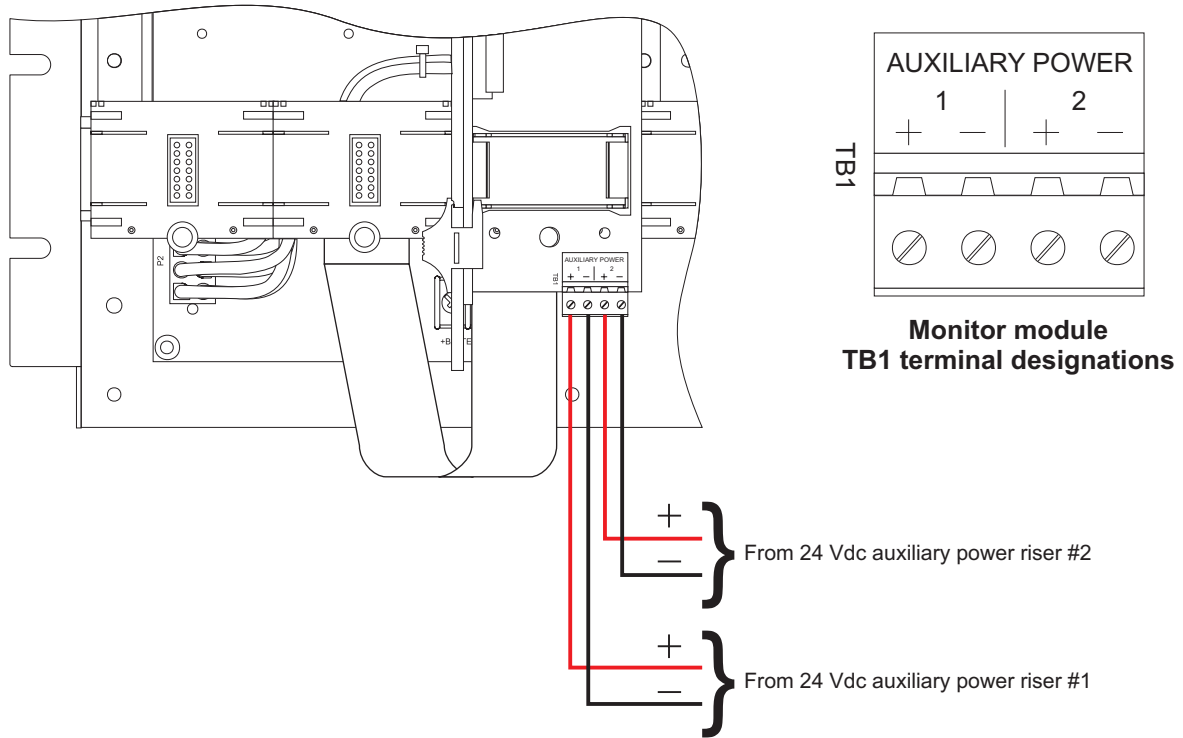

Figure-9: 24 Vdc auxiliary power riser wire connections
4. Connect the 24 Vdc auxiliary power riser conductors to TB1 on the power supply monitor module. Refer to Figure-9 on page 6.